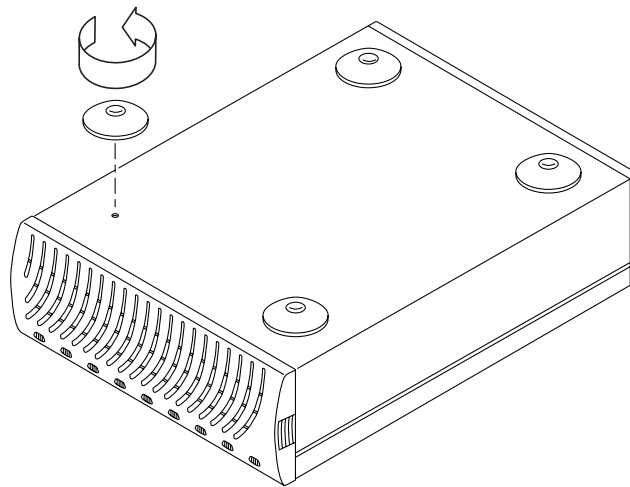

FIGURE 2-3 Removing the Feet
2. Remove the feet from the disk tray by turning each one counterclockwise (FIGURE 2-3).